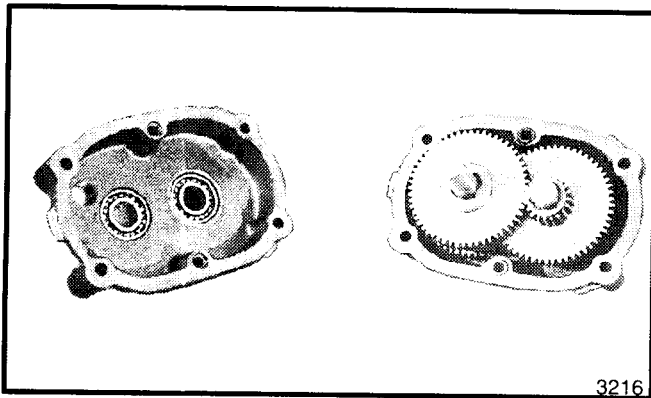

Figure 33. Transmission Case Apart
5. Remove the the remaining hardware. Take note of which side is the input side and which is the output side so that they can be reassembled correctly. Using a soft hammer, tap case on the tabs to break the seal, and pull halves apart (see figure 33).